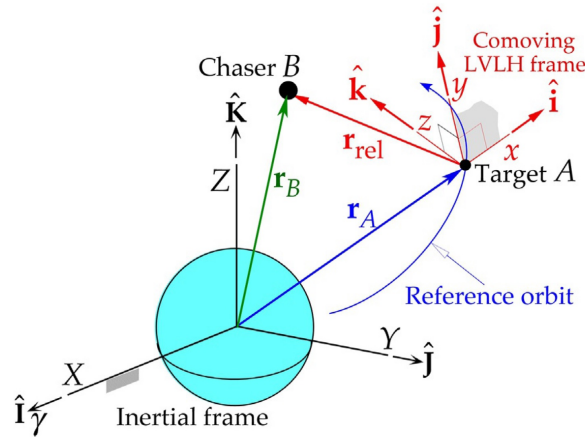
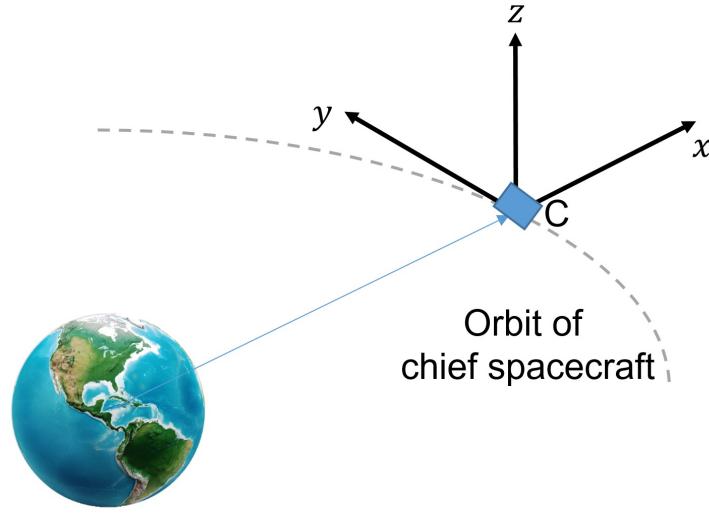

Figure 1: Position of chaser relative to the chief/target spacecraft and the definition of the Local-Vertical Local-Horizontal (LVLH) frame.
Figure 2: CW frame.
Here, m denotes the spacecraft mass, which is assumed to be constant during the maneuver since the low-thrust propulsion system has a high specific impulse value. Note that the x coordinate is in the radial direction, the y coordinate is in the in-track direction, and the z component is in the out-of-plane direction (along the osculating angular momentum vector). The details of the derivation of the Hill's equations can be found, for instance, in Chapter 7 of the book by Howard Curtis – Orbital Mechanics for Engineering Students. Figure 1 depicts the scenario and the definition of the chaser and target spacecraft along with the co-moving LVLH frame. If the orbit of target vehicle is a circle, then the LVLH frame is called a Clohessy-Wiltshire (CW) frame. The relation for ω can be found in the same chapter. Under this assumption, the equations of motion of the chaser in the CW frame are given in Eq. (1). Figure 2 shows a simplified view of the CW frame.